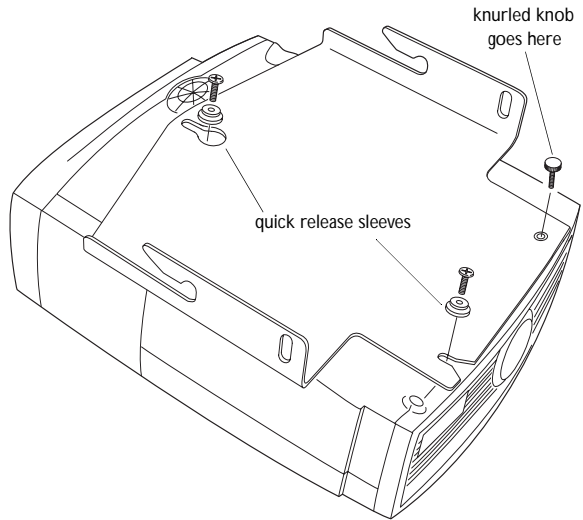

FIGURE 3
- 3 Loosely attach the screws and sleeves to the holes in the projector as shown in Figure 3.
- 5 Attach the 8 mm knurled knob to the projector in the location shown in Figure 3. Tighten the two 8 mm screws and the 8 mm knurled knob. Be careful not to over-tighten the screws.